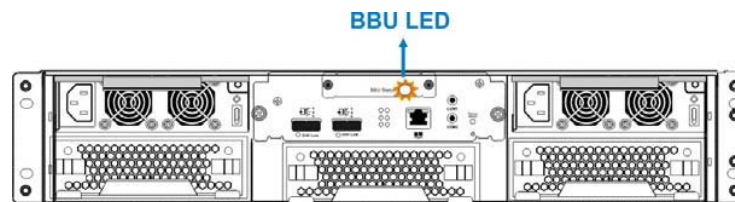

Figure 2-10: BBU LED
Step 4. The LED should start flashing to indicate that the BBU is being charged. When the BBU is fully charged, the LED will turn off. (See **Figure 2-10**)